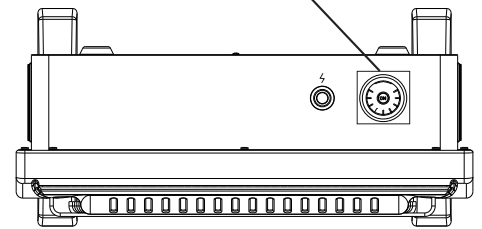

Fig. 19: Control knob position
The thermostat used on this heater senses the room temperature. At times the room may exceed the set temperature. If so, the burner will shut off. The burner will cycle back on when room temperature drops below the set temperature. The control knob can be set to any comfort level between “HIGH” (5) and “LOW”(1) (see Fig. 19).